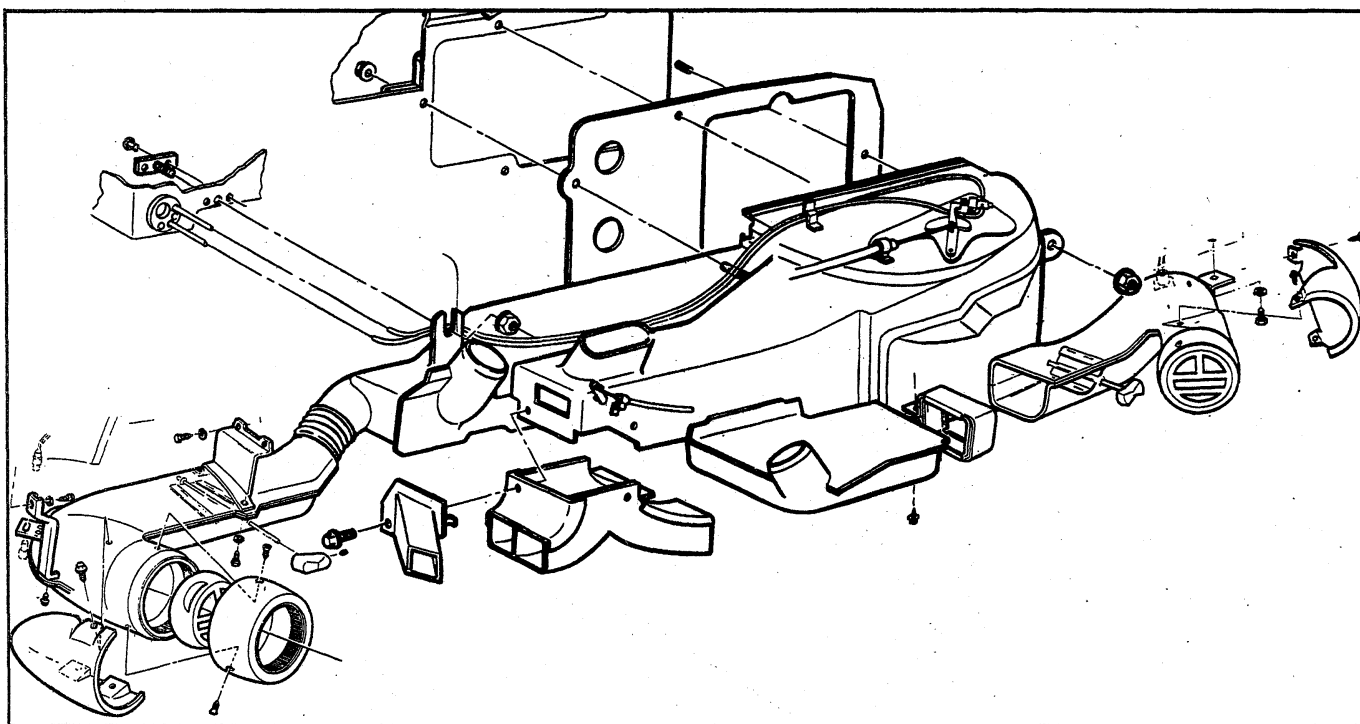

Fig. 95—Corvette Four-Season Ducts
4. The duct extension assembly may now be removed if desired as well as the deflector assembly. See Figure 95.
6. The duct extension assembly and the deflector assembly may be removed, if desired, as seen in Figure 95.